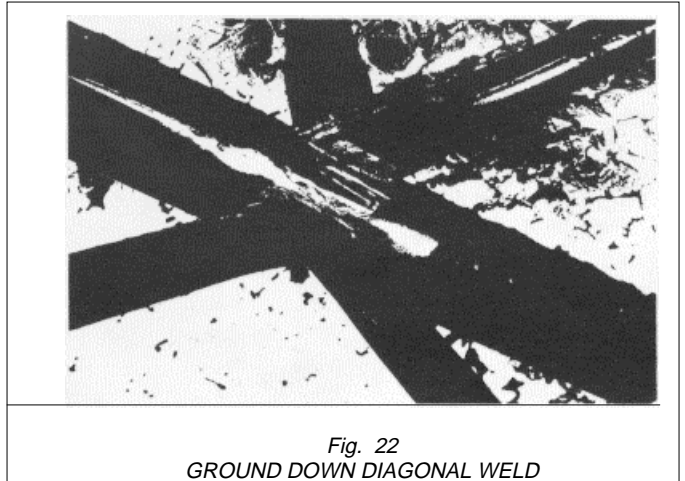

Fig. 22
- (3) Carefully grind the weld down to within 0.010" to 0.020" of the chord surface as shown in Figures 22, 23 and 24.